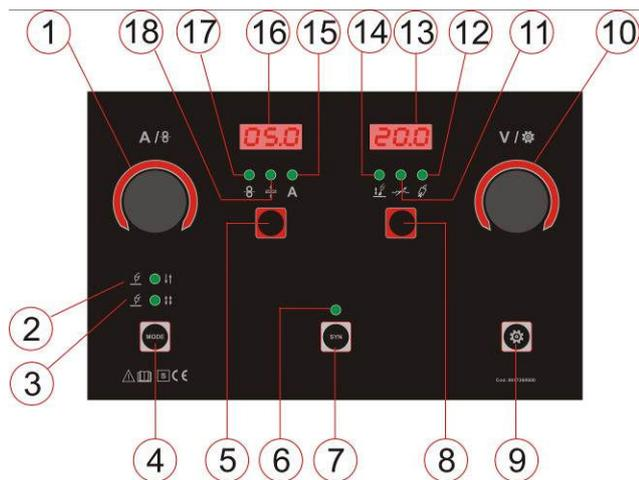

FIG.1
To weld in MANUAL MIG mode make sure that the synergic mode LED (Fig.1, ref.6) is off.
If it is on, press the SYN button (Fig.1, ref.7) until it turns off.
Then press the MODE button (Fig.1, ref.4) to select the MIG 2T (Fig.1, ref.2) or MIG 4T (Fig.1, ref.3) welding mode
Press the SYN button (Fig.1, ref.7) to activate the synergic mode.
The LED (Fig.1, ref.6) must light up.
Turning the right encoder V (Fig.1, ref.10) it is possible to change the program number
button in Fig.1, ref.5 until the reference LED lights up
ATTENTION: TO EXIT THE SYNERGISTIC MODE and RETURN TO MANUAL MODE, KEEP THE SYN BUTTON PRESSED (Fig.1, ref.7) FOR ABOUT 3 sec
Pressing the button  (Fig.1, ref.9) you access the adjustment of some secondary adjustments.
Press the button  (Fig.1, ref.9) until the **StA** appears on the right display. With the **V** adjustment encoder (Fig.1, ref.10) it is possible to vary the value of the Sta da Aut function (AUTO which is the ideal value) up to 125. After about 5 seconds from the end of the adjustment, the display returns to showing the welding voltage.
Press the button  (Fig.1, ref.9) until **bb** appears on the right display.
With the **V** adjustment encoder (Fig.1, ref.10) it is possible to vary the value of the bb function from **Aut** (AUTO which is the ideal value) up to 100 ms. After about 5 seconds from the end of the adjustment, the display returns to showing the welding voltage.
Press the button  (Fig.1, ref.9) until **End** appears on the right display.